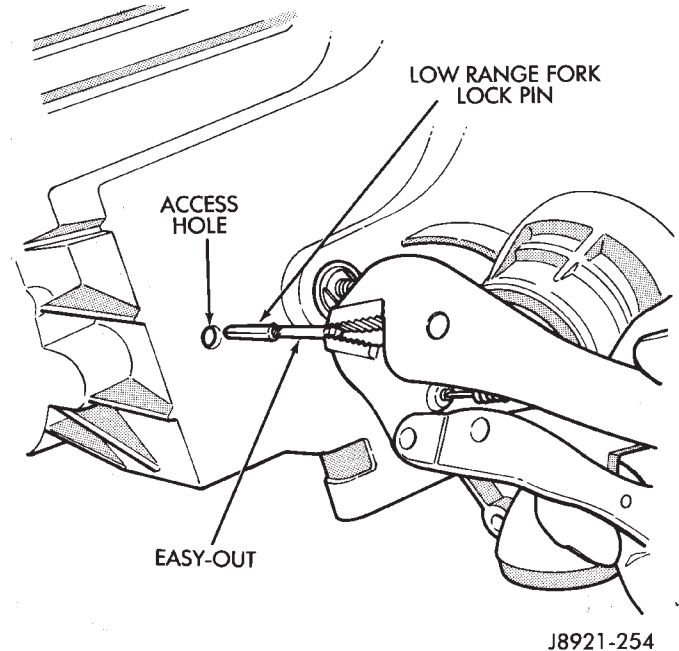

Fig. 71 Installing Low Range Fork Lockpin
(44) Rotate shift sector to align lockpin hole in low range fork with access hole in case.
(45) Insert an easy-out in range fork lockpin to hold it securely for installation (Fig. 71). **Lockpin is slightly tapered on one end. Insert tapered end into fork and rail.**
(46) Insert lockpin through access hole and into shift fork (Fig. 71). Then remove the easy-out and seat the pin with pin punch.